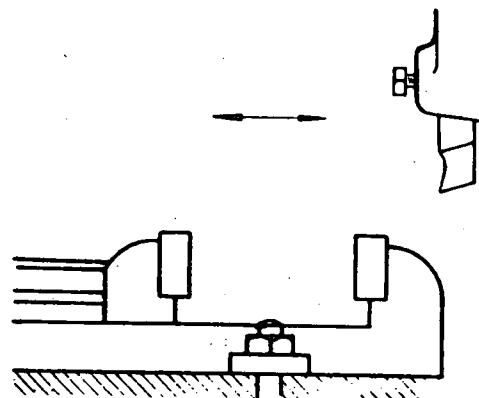

Fig. 2
- Fix the vice on the machine-table in the position shown in Fig. 2.